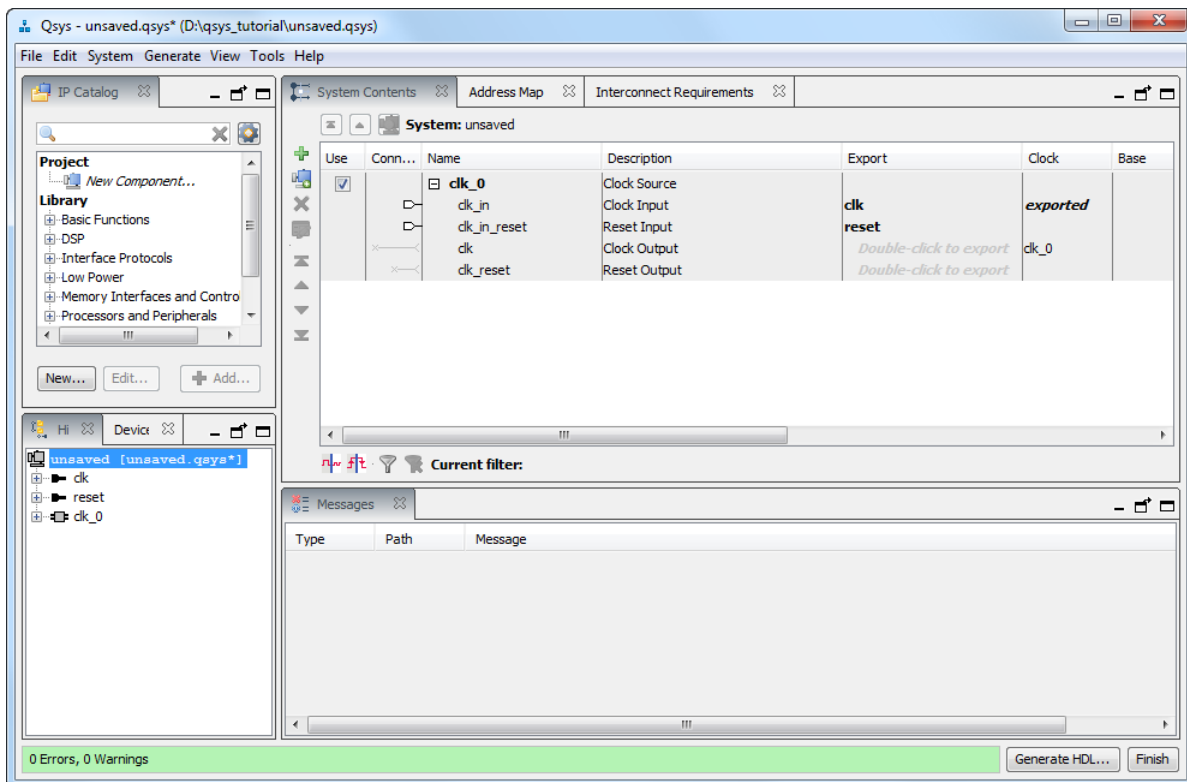

Figure 4. Create a new Nios II system.
2. After completing the New Project Wizard to create the project, in the main Quartus Prime window select **Tools > Qsys**, which leads to the window in Figure 4. This is the System Contents tab of the Qsys tool, which is used to add components to the system and configure the selected components to meet the design requirements. The available components are listed on the left side of the window.